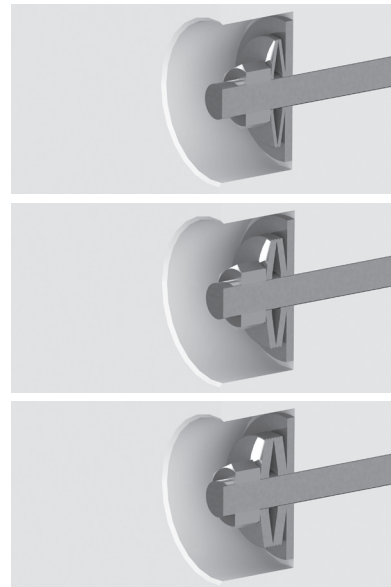

Figure 6
9. For plastic versions (PD-Sxx GG and EA) put the washers on the assembly pins (6) with closed nuts and place them through the liquid part. For metal liquid parts (PD-Sxx SG, AG, SA and AA) screw pins (6) in to liquid part first flushed to the bottom surface of the body. After assembly of complete air section put the washers on the assembly pins (6). Position the washers as shown on the example picture (figure 6).